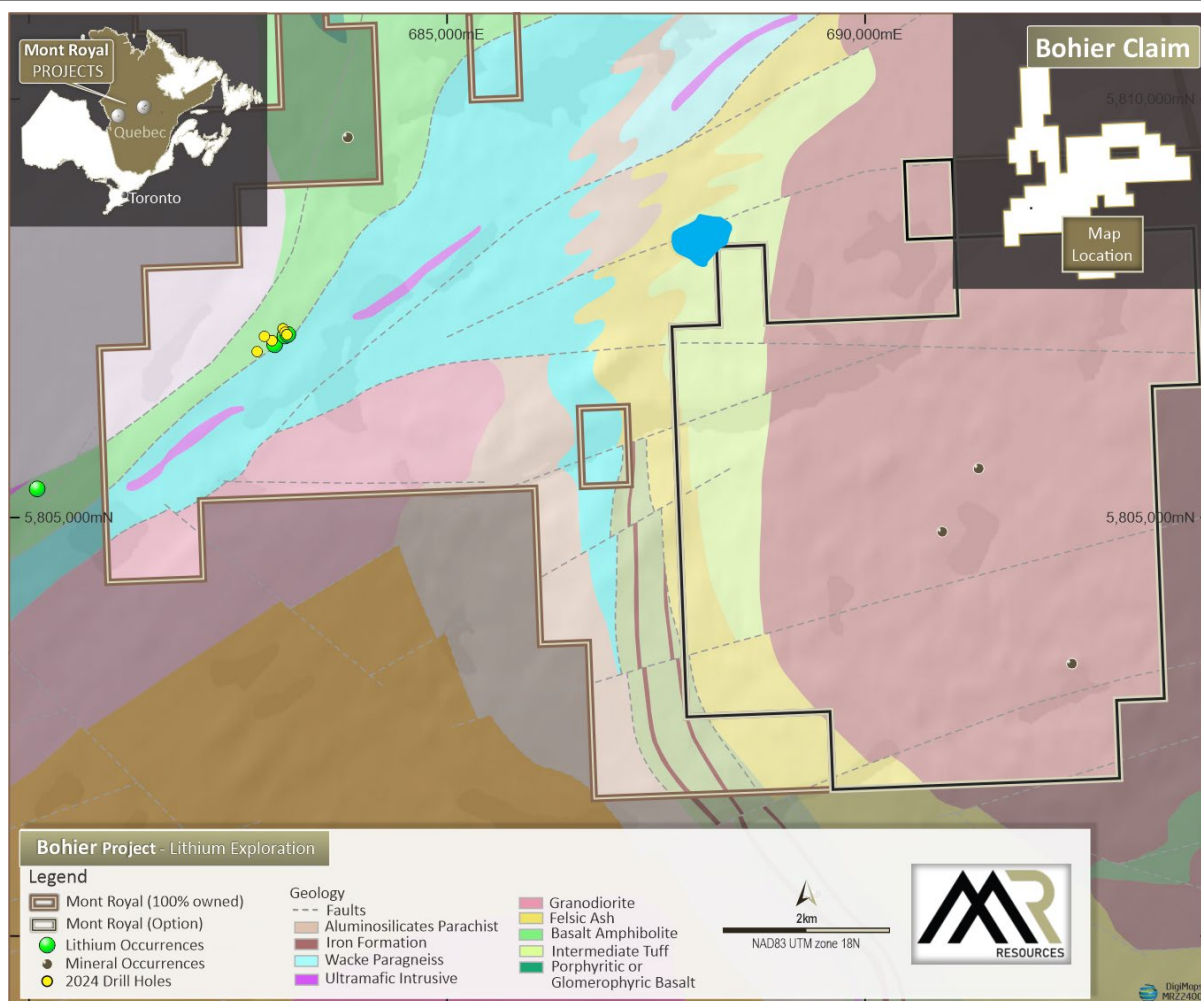

Figure 1: Bohier Lithium Project – Overview, Geology and Location of 2024 Drill-Holes.
- 2024 summer drilling program completed at the Bohier Lithium Project in Canada, with a total of eight (8) holes drilled for 744 metres.
Mont Royal Resources Limited ("**Mont Royal**", the "**Company**") (ASX: **MRZ**) is pleased to advise that it has successfully completed its 2024 summer drilling program at the Bohier Lithium Project, located in the world-class James Bay region of Quebec, Canada (see Figure 1). The program was completed safely and within budget, with a total of eight (8) holes drilled for 744 metres.